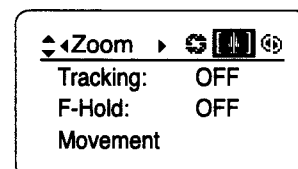

Fig. 2-14
2. Push the Set key, and move the right key to display the Zoom screen. (See Fig. 2-14)